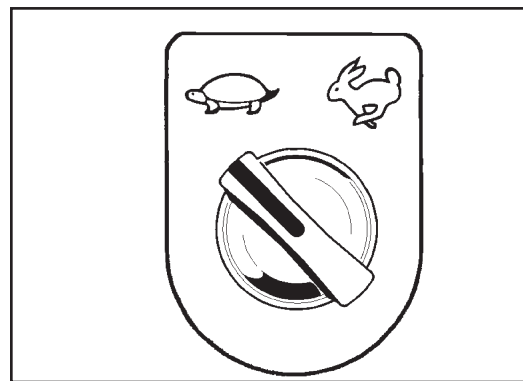

Fig. 47
- Select the desired travel speed range (Fig. 47).